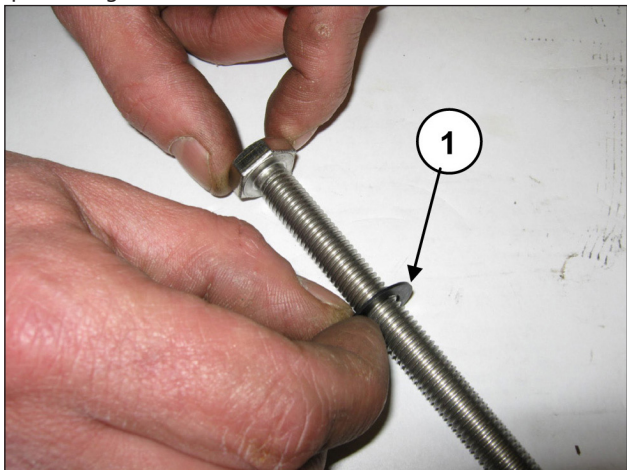

Fig. 136
Insert the $\text{\O}10 \times 18 \times 0.9$ washer in the piston fixing screw (pos. ①, Fig. 136).